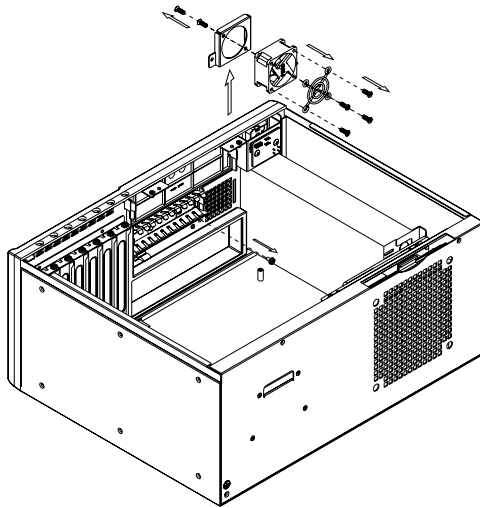

Figure 3.4: Replacing the 4 cm fan
4. Undo the two screws on the fan bracket so that you can take out the fan. (see *Figure 3.4*)